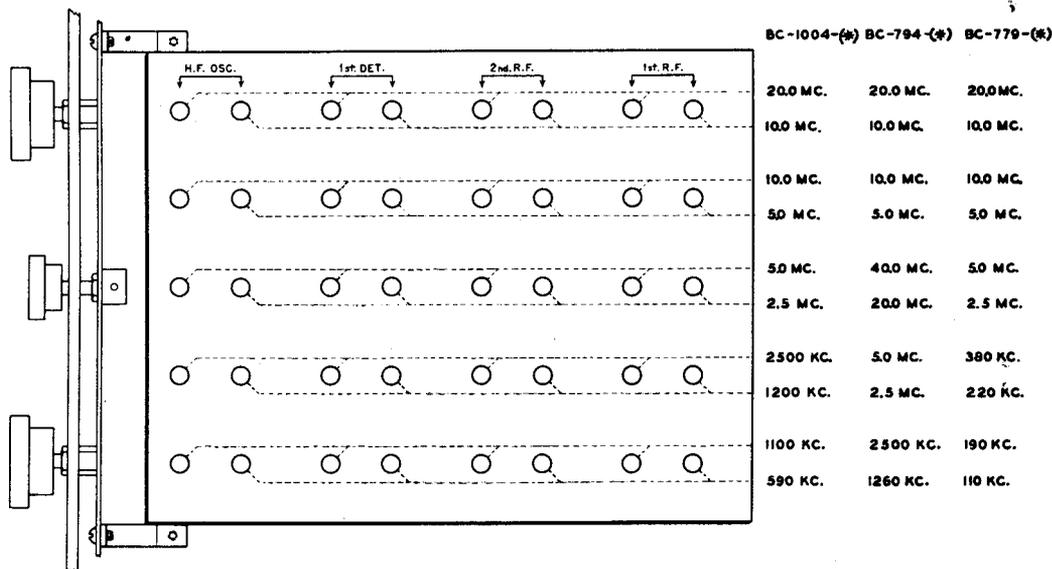

Fig. 2.—Location of adjusting trimmers, and aligning frequencies.
The alignment instruction which follows applies to all Super Pro models previously listed. Alignment frequencies for the various bands, and the location of the trimmers for each band, are shown in figure 2 below.
This adjustment should only be performed when it has been determined that the receiver dial calibration is sufficiently in error to require correction. Refer to figure 2 for location of h-f oscillator adjustments and aligning frequencies. Employ the following procedure:
1. Connect output meter to SPKR terminals at rear of receiver chassis. Connect signal generator output, through a 100 ohm resistor, to antenna terminals on receiver. Set signal generator for a modulated r-f signal, and dial for aligning frequency. Refer to figure 2 for aligning frequencies for each band. Set receiver controls as follows: MOD-CW switch to MOD; BAND SWITCH to band being aligned; AVC-MANUAL to MANUAL; SENSITIVITY adjusted to give half-scale deflection on output meter (CAUTION: Care should be given to this adjustment, so that at no time the output is much in excess of half-scale, or about 5 to 10 volts); AUDIO GAIN at 10; CRYSTAL SELECTIVITY at OFF; BAND WIDTH at 3; Band Spread dial at 100.